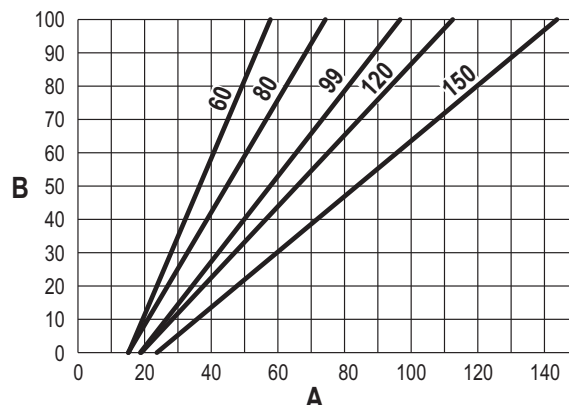

fig. 59
- Press the **contextual buttons 1 and 2** to increase or decrease the heating capacity (minimum = 00 - maximum = 100). See the diagram "Heating Capacity Adjustment" (fig. 59).